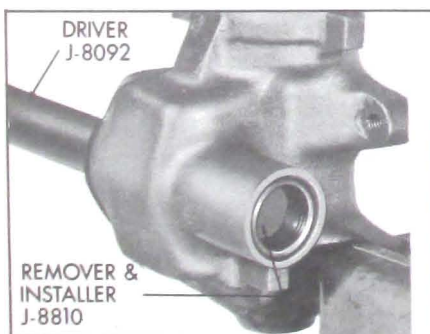

Figure 8-14—Installing Pitman Shaft Bushing
5. Inspect teeth of ball nut and pitman shaft for pitting or scoring which would require replacement of nut or pitman shaft. Inspect pitman shaft bushing for excessive wear or scoring. If necessary, remove pitman shaft bushing and install a new bushing with Remover and Replacer J-8810 and Drive Handle J-8092. See Figure 8-14.